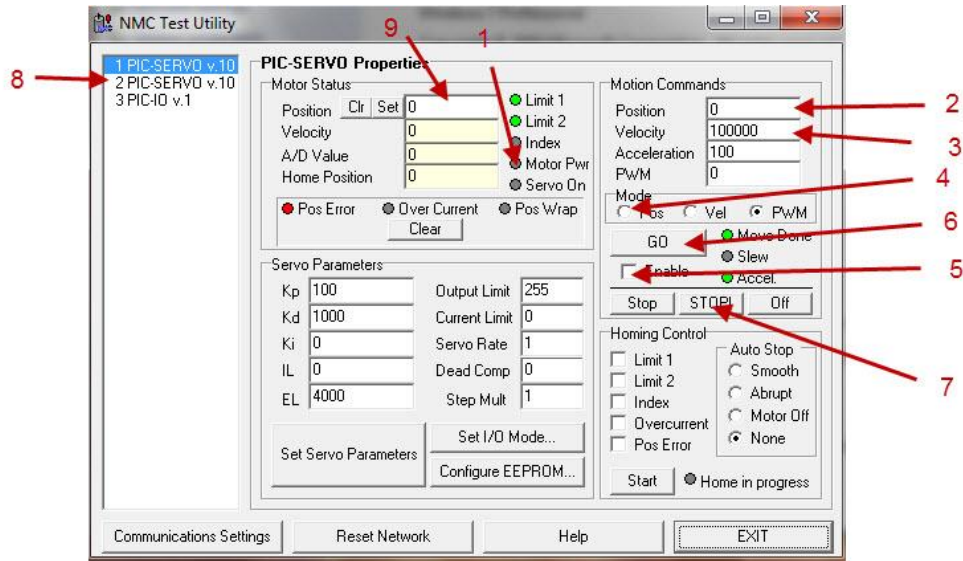

Fig 3.
6. Press OK you will see fig 3.